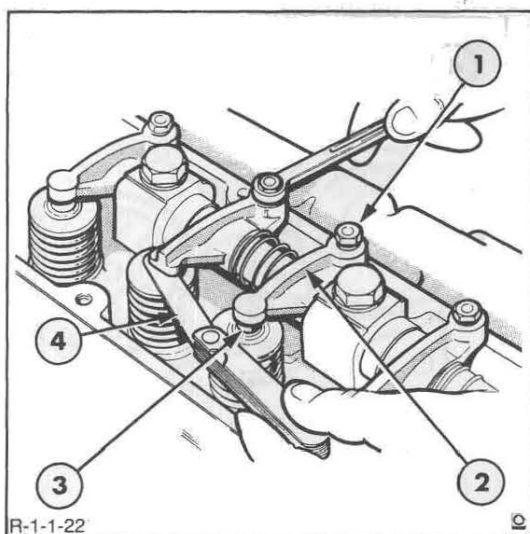

Figure 21
- Rotate the engine and set the valve lash, Figure 21. See "Specifications" – Chapter 4.